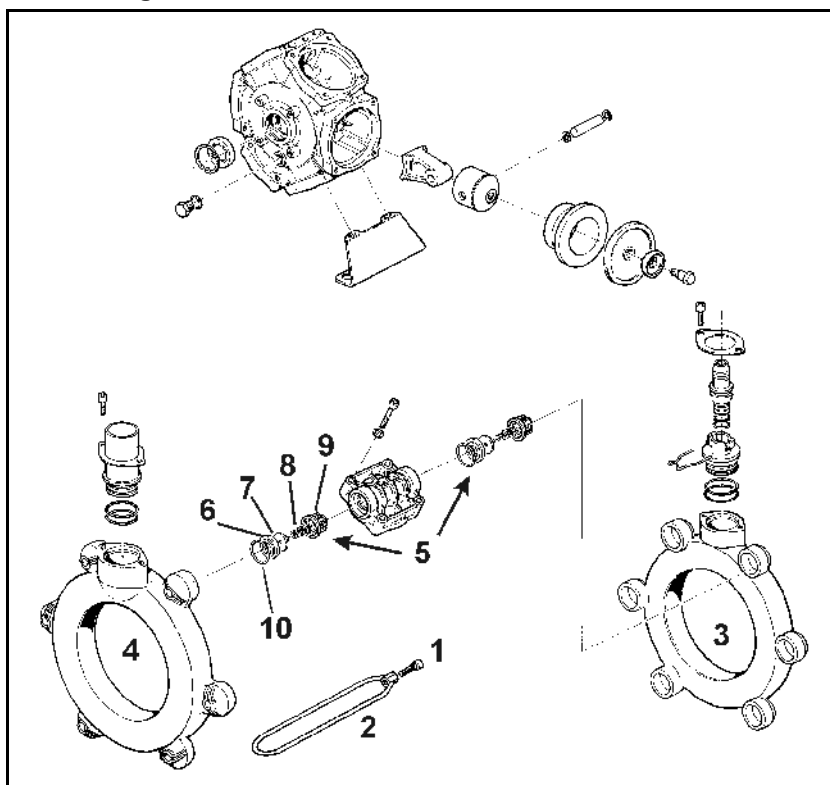

Fig. 148
- Note the fitting position of the suction- and pressure-side valves, before you remove the valve groups (Fig. 148/5).
- When refitting watch that the valve guide (Fig. 148/9) will not be damaged. Damage could lead to blockage of valves.
- Tighten bolts (Fig. 148/1) diagonally with the torque stated. Inaccurately tightened bolts will cause tensioning and thus leakage.
2. Slacken bolt (Fig. 148/1) and remove tensioning clamp (Fig. 148/2).
3. Take off suction- and pressure channel (Fig. 148/3 and Fig. 148/4).
4. Take off valve groups (Fig. 148/5).
5. Check for damage or wear of the valve seat (Fig. 148/6), valve (Fig. 148/7), valve spring (Fig. 148/8) and valve guide (Fig. 148/9).
6. Remove the O-ring (Fig. 148/10).
8. Mount the valve groups (Fig. 148/5) after checking and cleaning.
9. Fit new O-rings (Fig. 148/10).
10. Re-install suction - (Fig. 148/3) and pressure channel (Fig. 148/4) to the pump housing and refit the tensioning clamp (Fig. 148/2).
11. Tighten the bolts (Fig. 148/1) always diagonally with a torque of **11 Nm**.